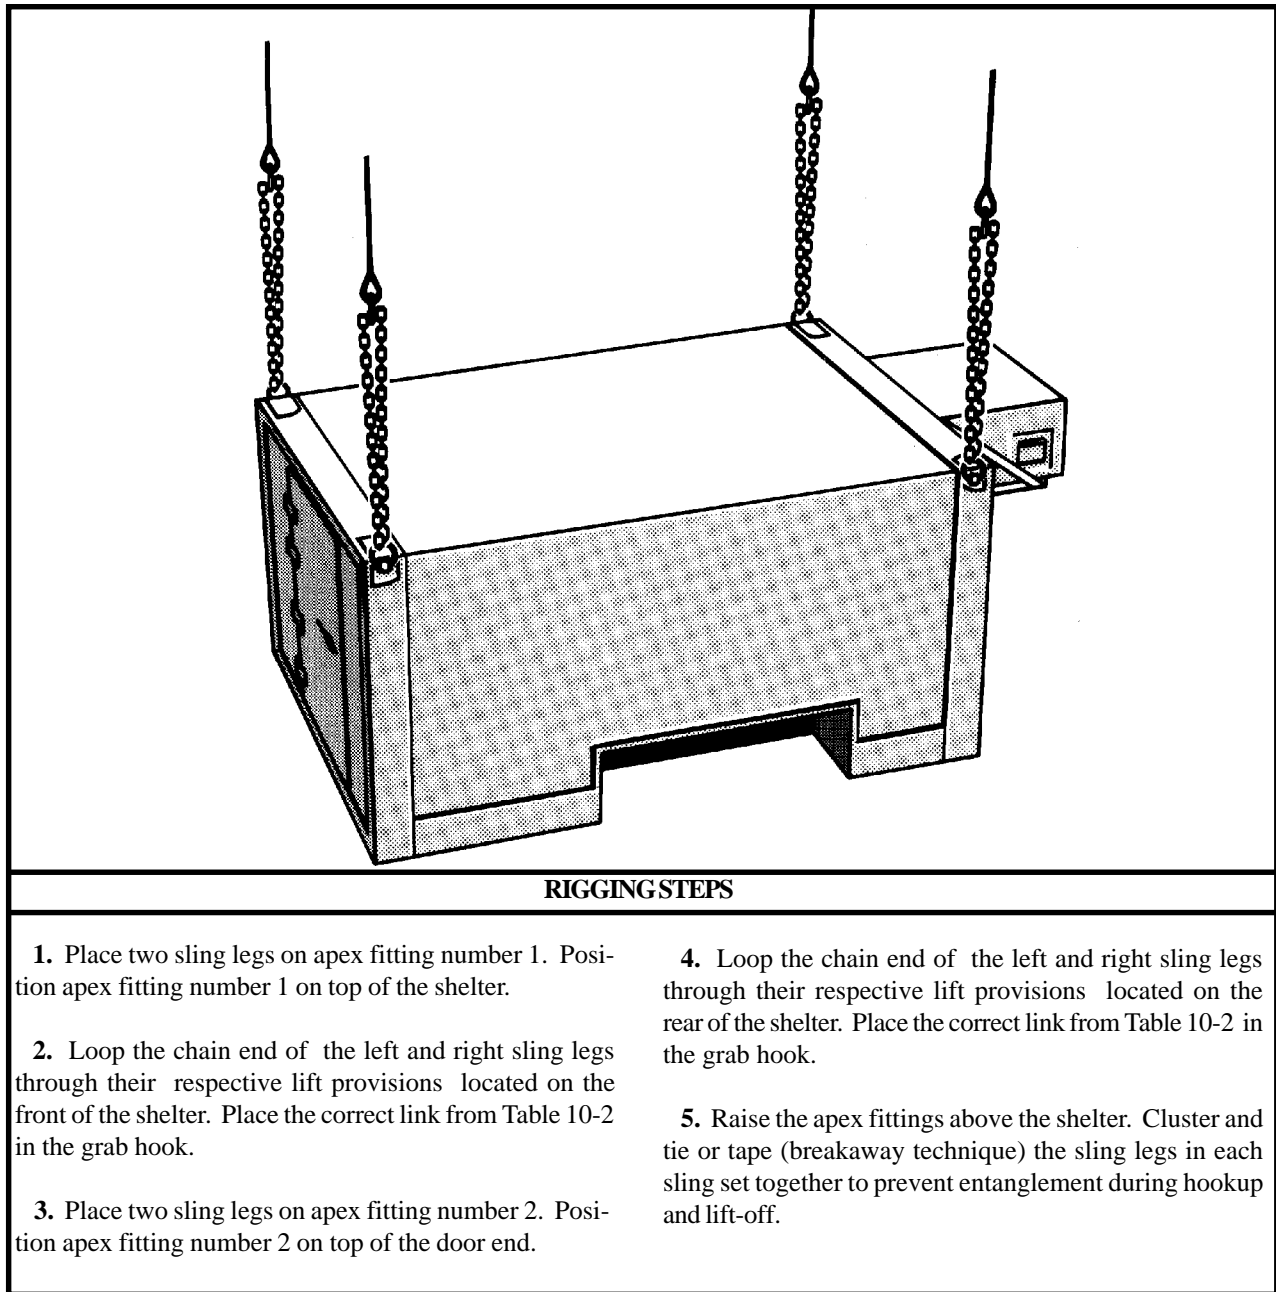

Figure 10-2. Lightweight Multipurpose Shelter
(2) **Rigging.** Rig the load according to the steps in Figure 10-2.